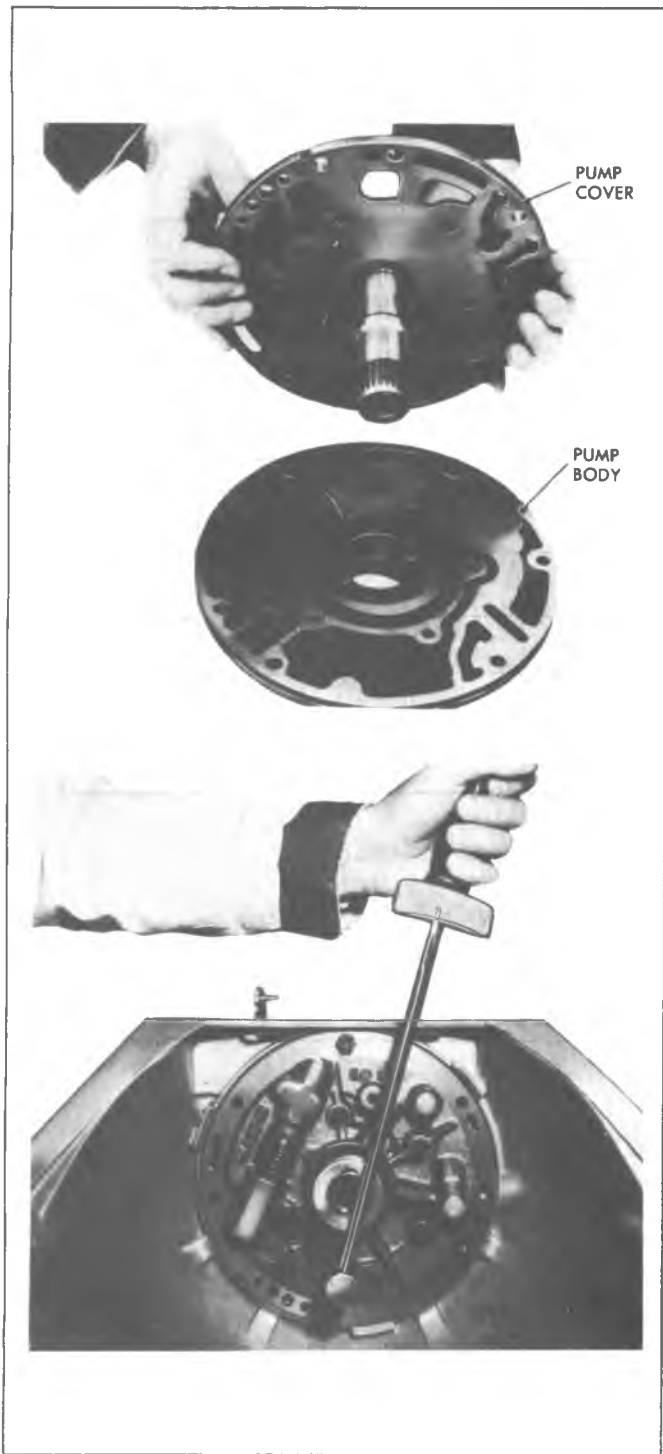

Fig. 7A-78C--Aligning and Installing Pump Cover to Pump Body
3. Install spacer(s) if used, retainer and spring, into pressure regulator bore (Fig. 7A-77C).
9. Install two (2) hook type oil seal rings.
10. Assemble pump cover to pump body with attaching bolts (Fig. 7A-78C). Leave bolts one turn loose at this time.